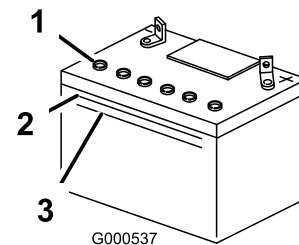

Figure 42
- Look at the side of the battery. The electrolyte must be up to the **upper** line (Figure 42). Do not allow the electrolyte to fall below the Lower line (Figure 42).
- Remove the vent caps from the battery (Figure 42).
- Slowly pour distilled water into each battery cell until the electrolyte level is up to the Upper line (Figure 42) on the battery case.
- Wait five to ten minutes after filling the battery cells. Add distilled water, if necessary, until the electrolyte level is up to the Upper line (Figure 42) on the battery case.